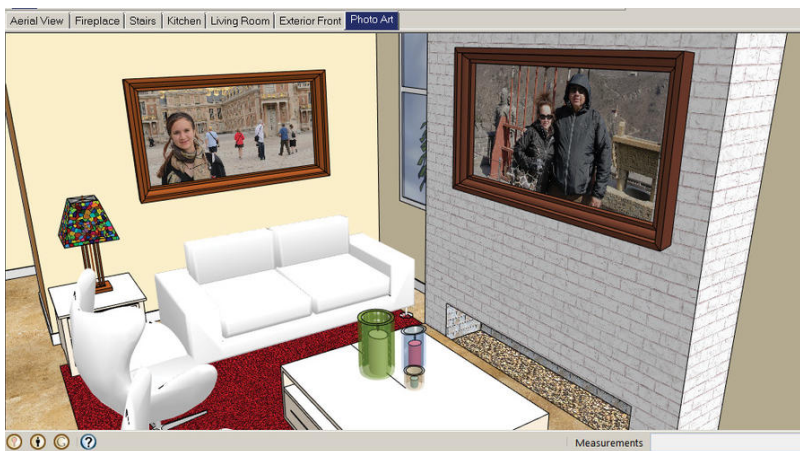

Figure 1-14: Incorporate artwork and photos into the design.
- ▶ Incorporate artwork and photos into the design. The tabs at the top of Figure 1-14 are preset scenes for a slideshow presentation.